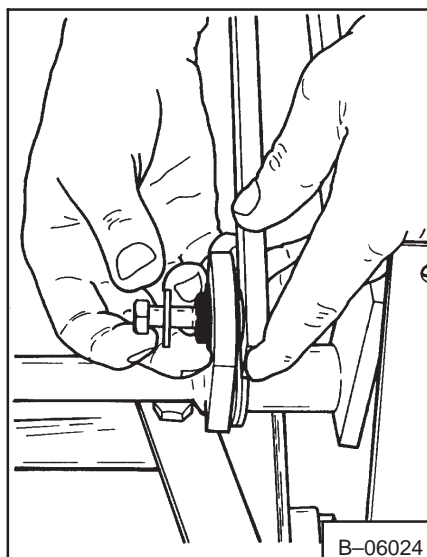

Fig. 3-7 Disconnect Steering Linkage
6. Disconnect the steering linkage at the steering levers (Fig. 3-7).
3. Install the steering linkage (Fig. 3-7) do not tighten the nuts.